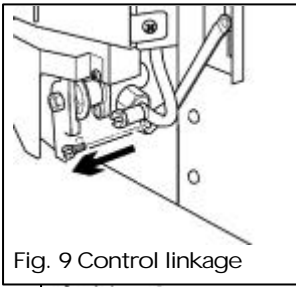

Fig. 9 Control linkage
6.1 Disconnect the control linkage from the burner unit by removing the shouldered screw which joins the control linking bar to the control pivot unit (see figure 9).